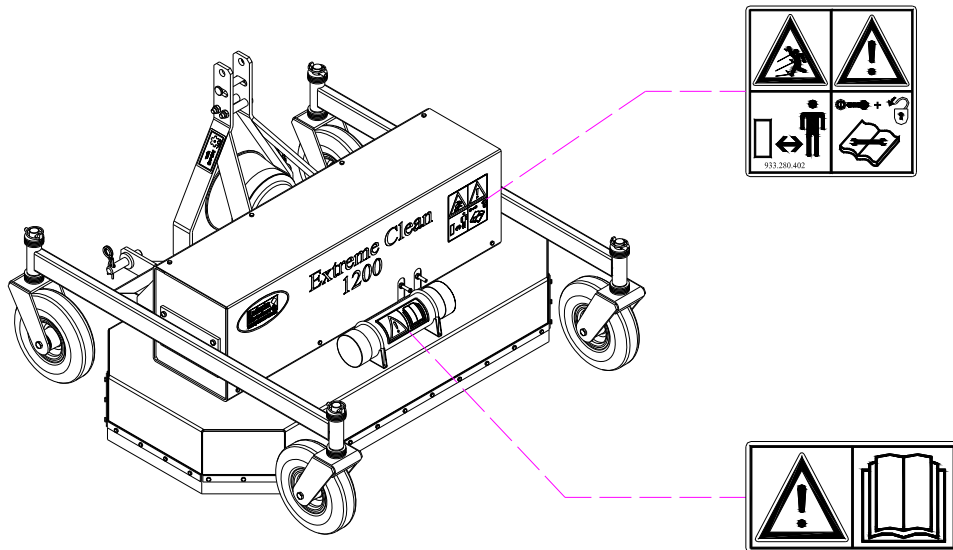

Figure 5
Safety stickers (Figure 2, 3 and 4) with identical intentions are attached to the sideboards (Figure 5) of the Extreme Clean. These safety stickers must always be clearly visible and legible and must be replaced if they have become damaged.
- (7) Location of the safety stickers (Figure 5)